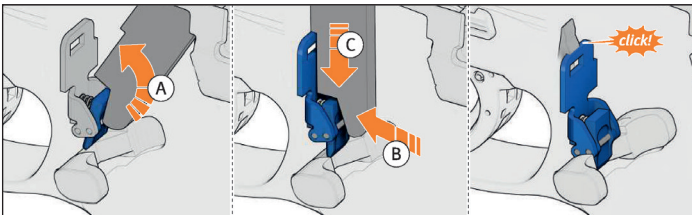

Figure 48 – Latch in the magazine catch
5. Remove the push button by sliding it out of the pistol grip frame (Figure 48).